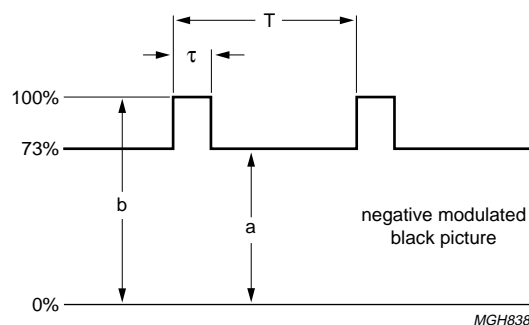

Fig.5 Composite video signal with black level for determining sync-peak power.
The sync power can then also be determined from the obtained sync level. The formula and definitions used for this calculation are given below (1) and in Fig.5. The output sync pulse content versus P_{sync} power is presented in "Appendix F4".